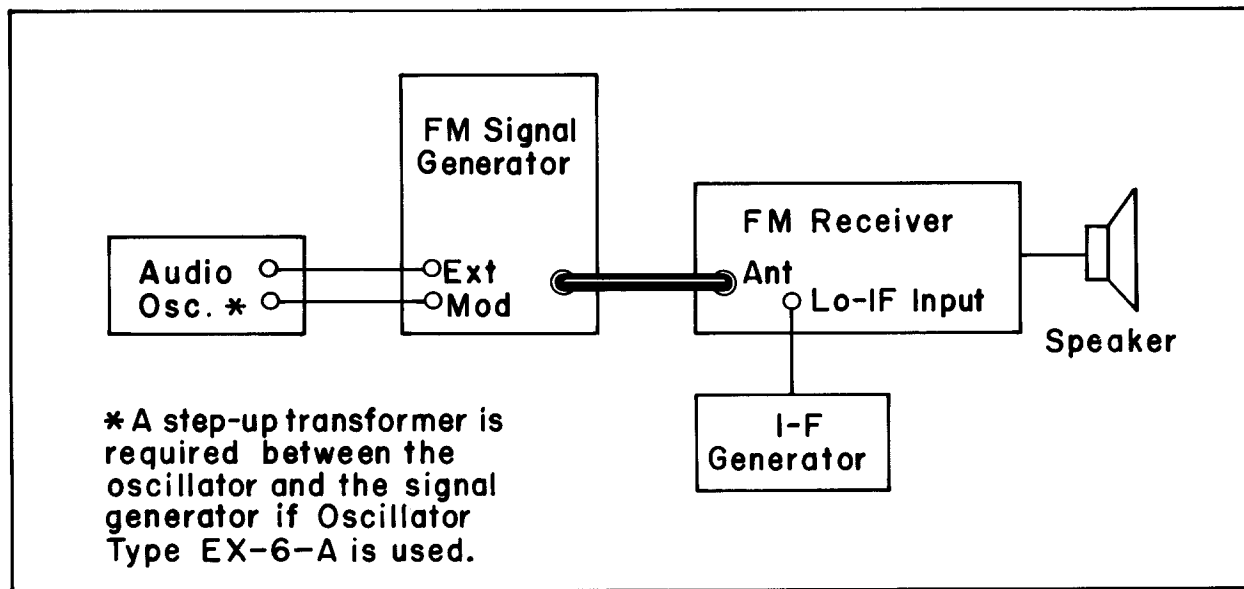

Figure 5 - Test Setup for Checking Deviation of FM Signal Generator
1. Test Setup: Connect the test equipment as shown in Figure 5. Set the output frequency of the I-F generator for the Lo-IF frequency of the receiver (455 kHz for MASTR or Porta-Mobil, 290 kHz for Progress Line or TPL). If I-F Generator EX-7-A is used, set the LEVEL control